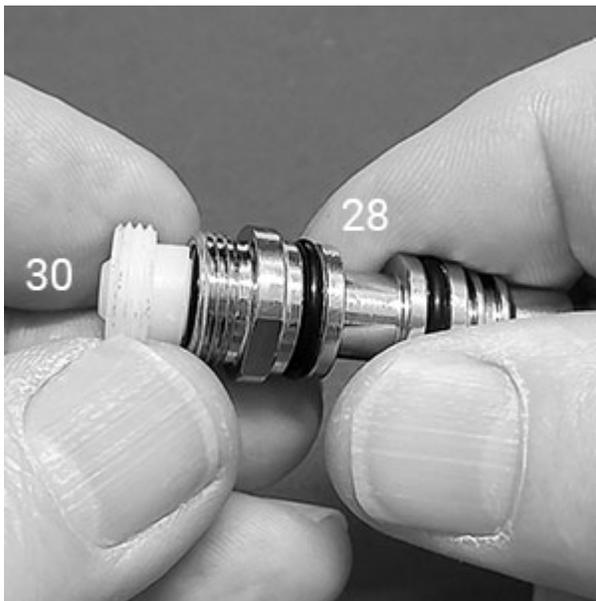
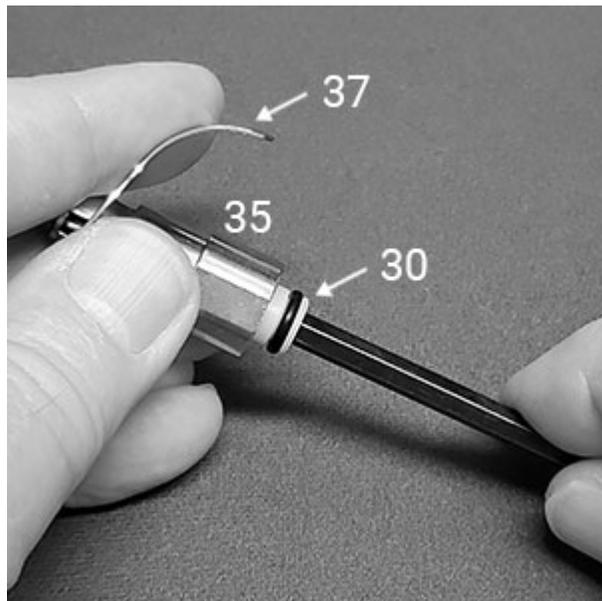

Fig. 21
Fig. 22
17. Pull the Crown Orifice (30) straight out of the Inlet Stem – Fig 21. If it remained behind inside the Valve Housing, apply pressure to the Lever and unscrew it completely with a 3/16" hex key – Fig. 22.